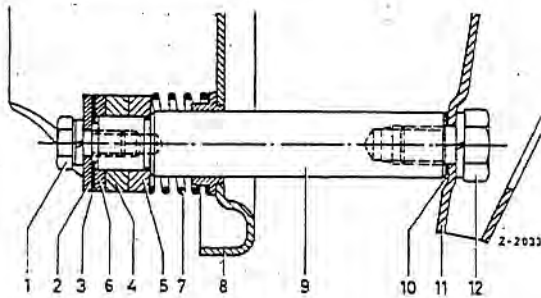

Fig. 42-9/3
**Note: Arrangement of washers on 50 mm brake shoes:** Washer (6) must be installed between the outer brake shoe (4) and the brass washer (3). The pressure spring (7) rests directly against the inner brake shoe (5) (Fig. 42-9/3).